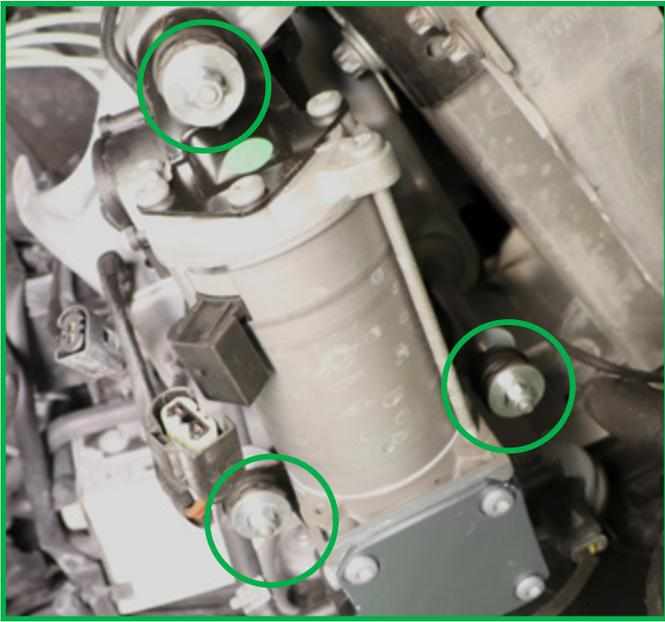

FIGURE 8
8. Locate and remove the three (3) mounting nuts to remove the compressor from the vehicle. (Figures 8, 9, 10, 11)